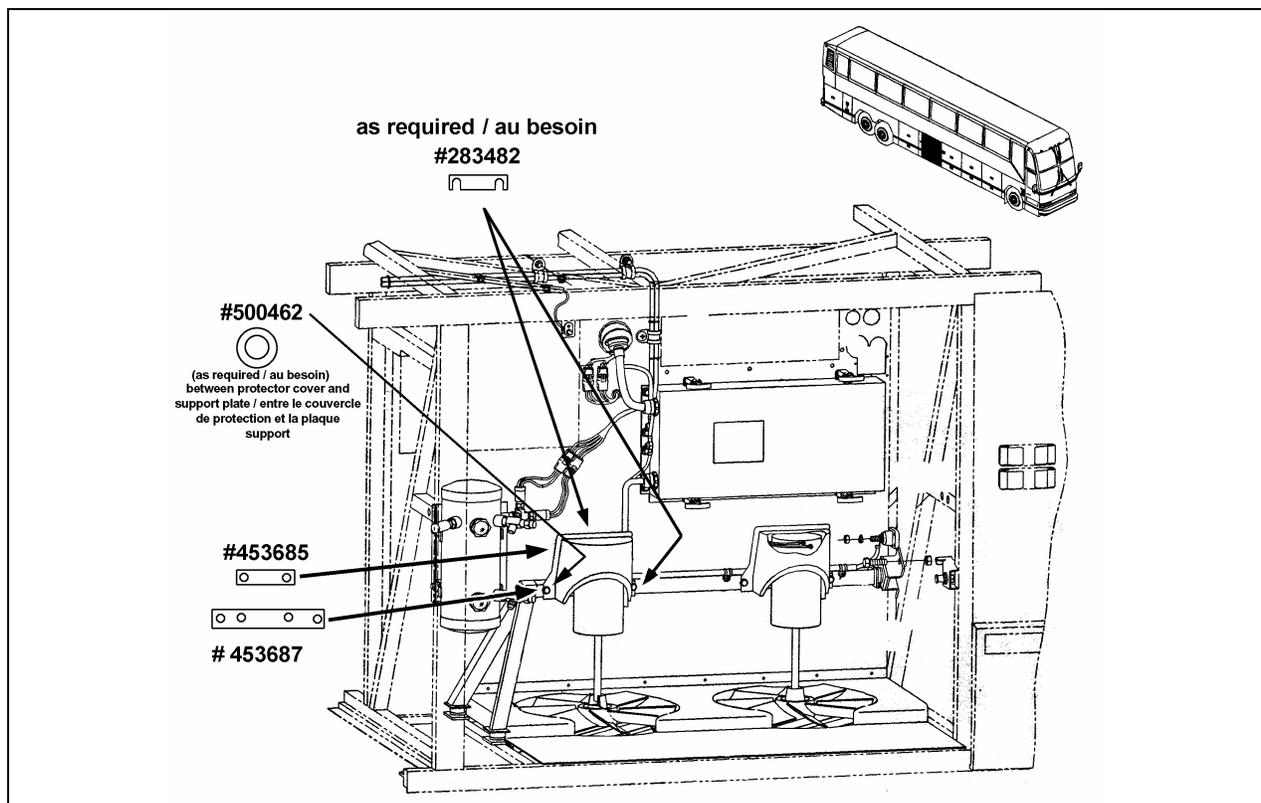

FIGURE 1: H3 SERIES, UP TO V-1961
3. Fix the fans onto the shafts and install the new drive motors as per figure 1, 2 or 3 depending on the type of vehicle. Use the included shims to center the fan in the circular opening.